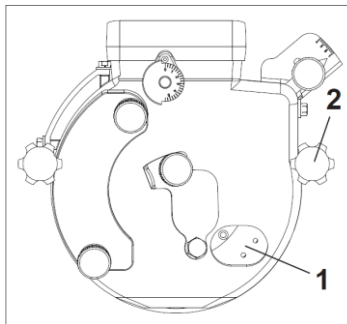

FIGURE 65
SEED SYSTEM (FIGURES 65/66/67)
- Place a container under the outlet (1) of the doser. **FIGURE 65**